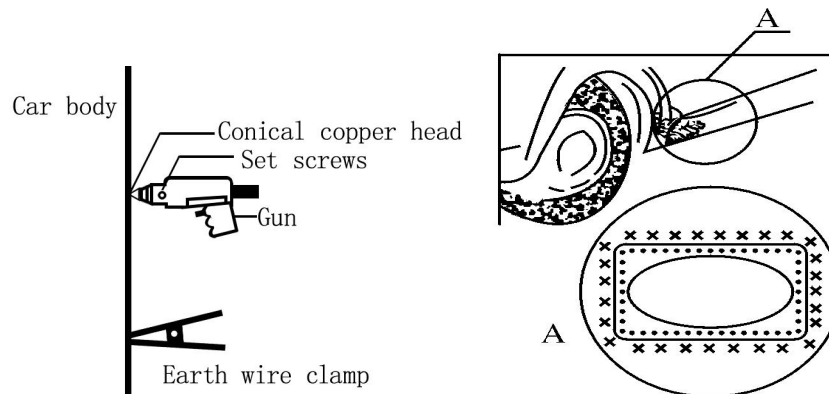

Figure 7
9.6.1 Grinding the rust around the hole or or rotten parts thoroughly, take a iron plate which little larger than hole as fillings pieces. Polished each sides of this iron plate and cover on the gap, the bonding for a single point (Figure 7, left);
gun on the iron plate edge. iron plate must be tightly connected with the body, pressing the gun switch for a single point operation. Iron plate should be uniformly distributed around the melting point, that is machine automatically trigger and work, melting point uniform around iron plate (Figure 7 on right)